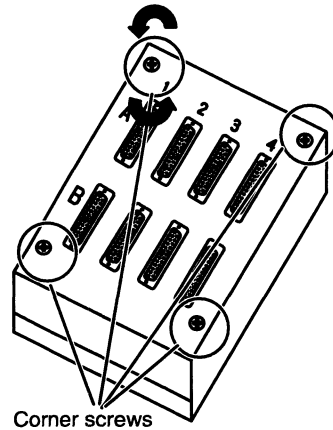

Figure D-13 Removing J-Box Corner Screws
2. Remove the four screws at the J-box corners, as shown in Figure D-13.